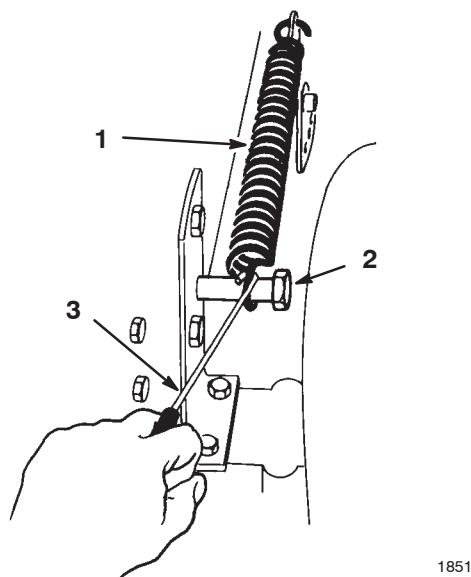

Figure 41
6. Remove the lift assist spring between the mower right side lift bracket and the retaining bolt (Fig. 41).